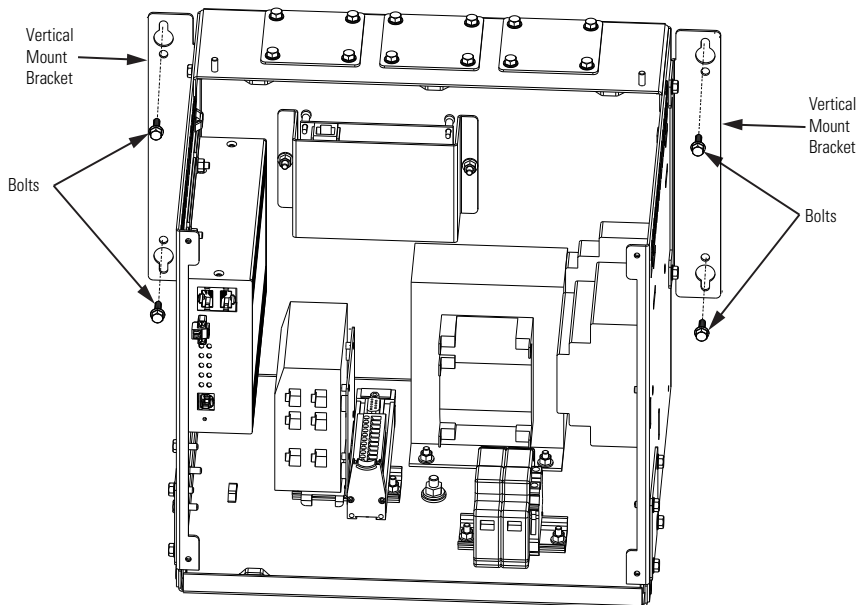

Figure 6. Wall Mount Installation
2. Place the controller in position and attach with bolts to the wall (see Figure 6).